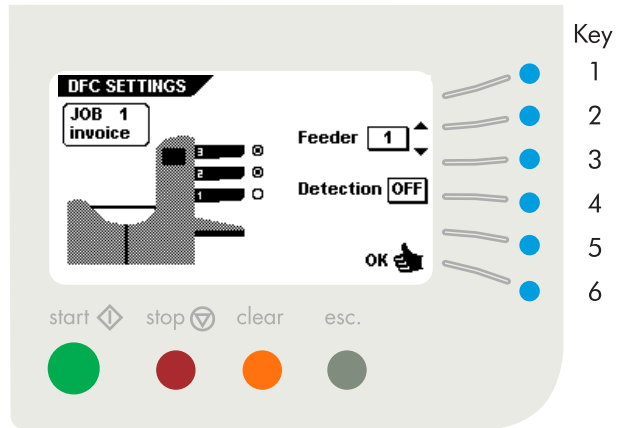

Fig. 47
When the “DFC settings” menu is selected and key 3 is pressed in the “job settings” menu, the display shows the screen as shown in fig. 47. This menu shows the following functions: